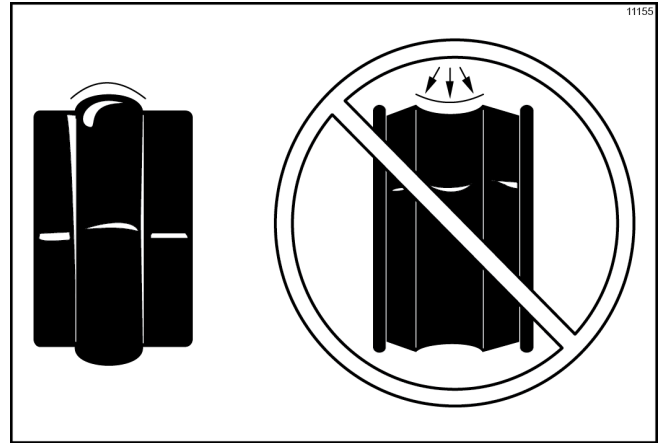

Figure-128
**Note:** To ensure the mix does not leak out the back of the freezing cylinder, the middle section of the boot seal should be convex or extend out from the seal. If the middle section of the boot seal is concave or extending into the middle of the seal, turn the seal inside out. (See Figure-128.)